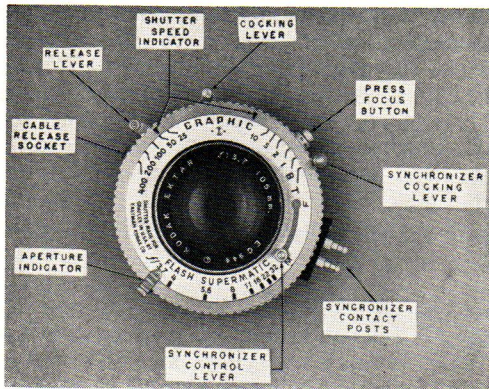
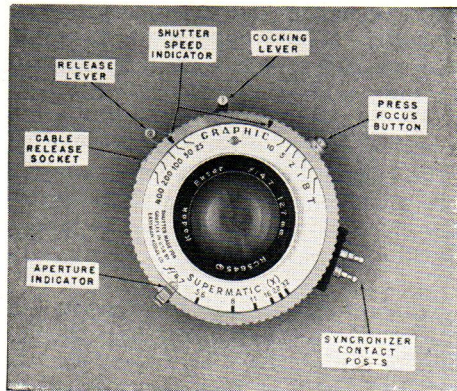

Fig. 44 Flash Supermatic Shutter
Fig. 45 Supermatic (X) Shutter
The Flash Supermatic Shutter has built-in contacts with an adjustable synchronizer delay mechanism for firing Class F, Class M flash lamps, and the Class X high speed electronic flash units (fig. 44). The Supermatic (X) Shutter has built-in contacts which provide for zero delay and is synchronized only for firing the Class X high speed electronic flash units (fig. 45).